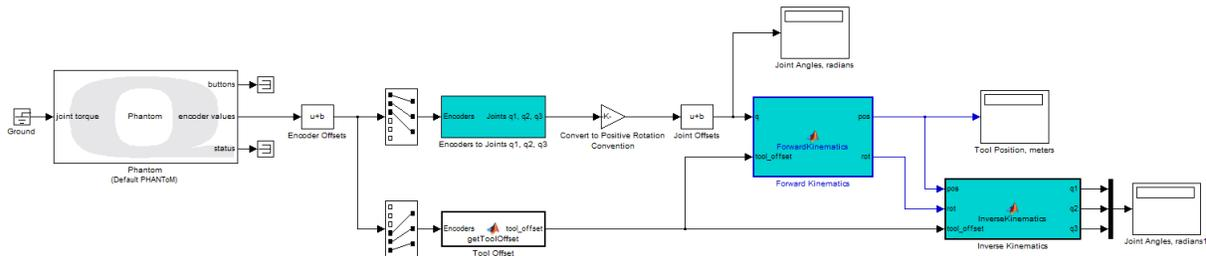

Figure 4.4: Inverse kinematics and forward kinematics
1. Copy and paste **Forward_Kinematics.mdl** from Section 3.2.2 into a new model called **Inverse_Kinematics.mdl**. Attach your inverse kinematics MATLAB Function block from Section 4.1.2 to the forward kinematics block. Your model should resemble Figure 4.4.